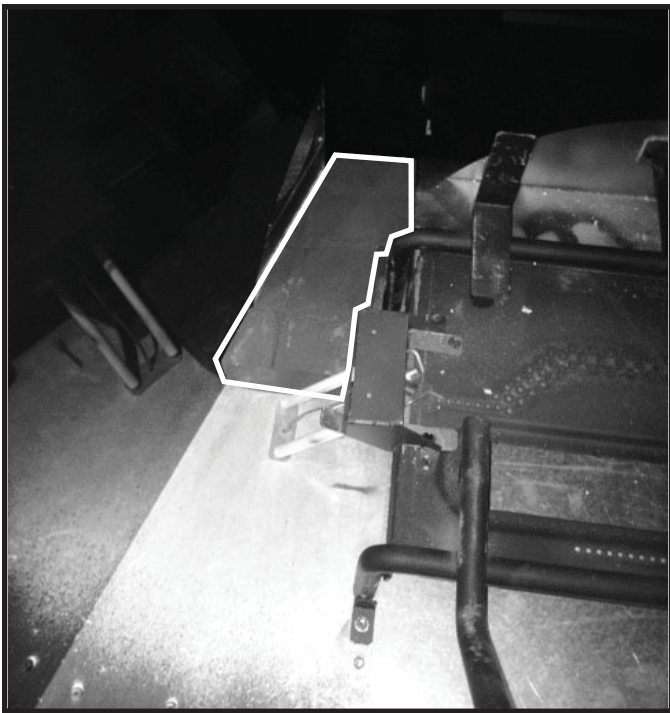

Figure 14. Left Rear Base Refractory
13. Place left rear base refractory into appliance as shown in Figure 14. Rotate refractory into position by placing right edge of part on firebox bottom, pulling tight to the grate leg matching cut with leg and dropping left side of refractory piece into place.